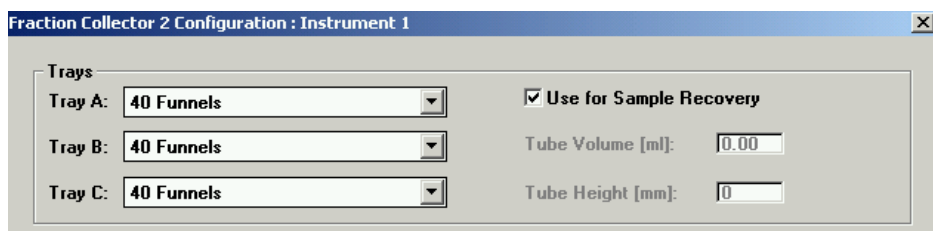

Figure 41 Sample Recovery Fraction Collector
- The preferred recovery strategy is to install multiple fraction collectors in your LC systems and use the last of those fraction collectors for recovery. This recovery fraction collector can be selected in the Configuration dialog box as displayed in Figure 41. The fourth fraction collector in your systems will always be used for sample recovery. Also read “Configuring Multiple Fraction Collectors” on page 44.